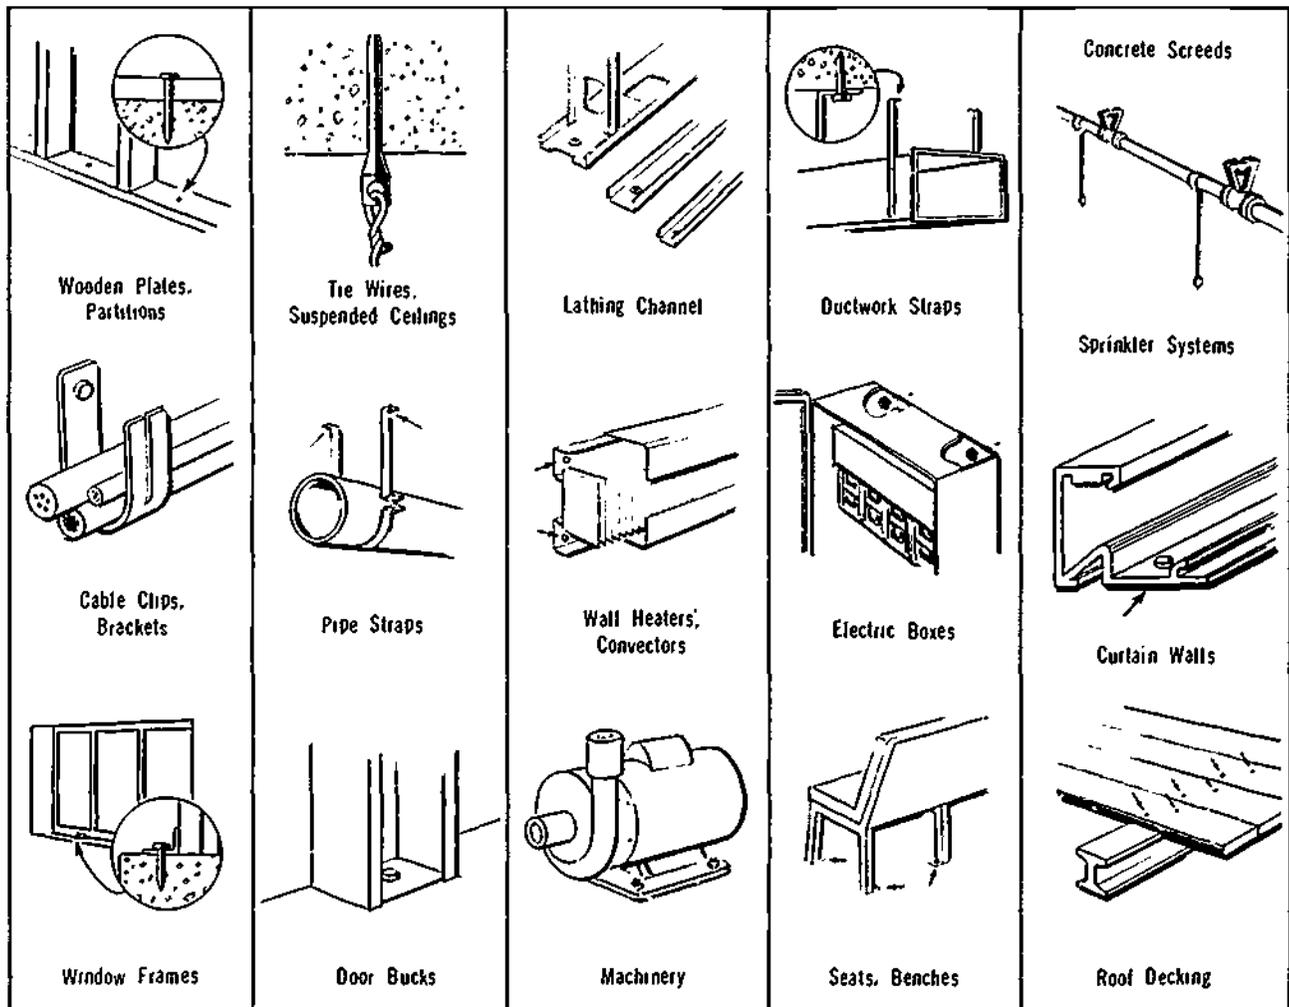

Figure 20-5. Examples of the Uses of Powder-Actuated Fasteners
e) Some of the applications for powder-actuated fasteners are shown in Figure 20-5.